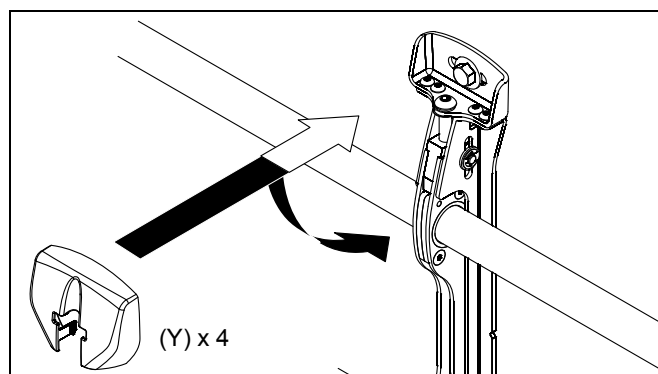

Figure 10
1. **(LSMVU only)** Attach wall bracket caps (Y) to top and bottom of both wall brackets. (See Figure 10)